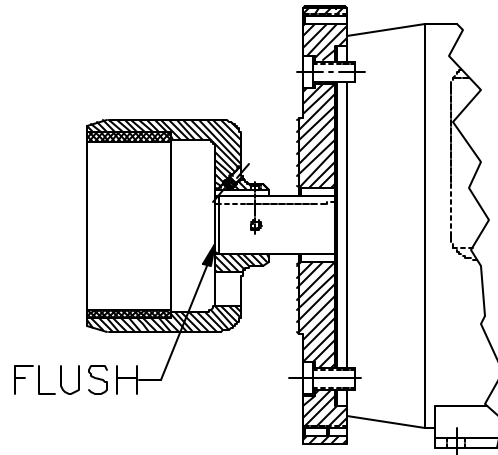

Figure 2 - Outer Magnet Position
16. Carefully lower outer magnet onto shaft until inside face of outer magnet is flush with the shaft. (see Figure 2).
18. Carefully lower outer magnet onto shaft until inside face of outer magnet is flush with the shaft. (see Figure 2).